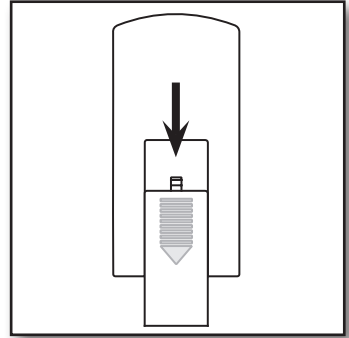

Figure 14.
1. Turn the Remote Control over and Remove the Battery Cover from the back by gently pressing down on the tab and sliding down on the tab. **Figure 14.**